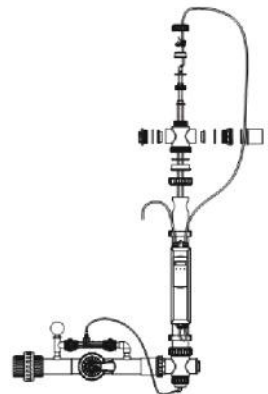

Fig 5
5. The quality of the ozone air in the system can be adjusted using the ball valve. The closer the ball valve is positioned; the more ozone air will enter the venture. The ideal range on the manometer is between 0.6 and 0.9 bar, the reading on the manometer is between 9 to 15 psi. (Fig 5).